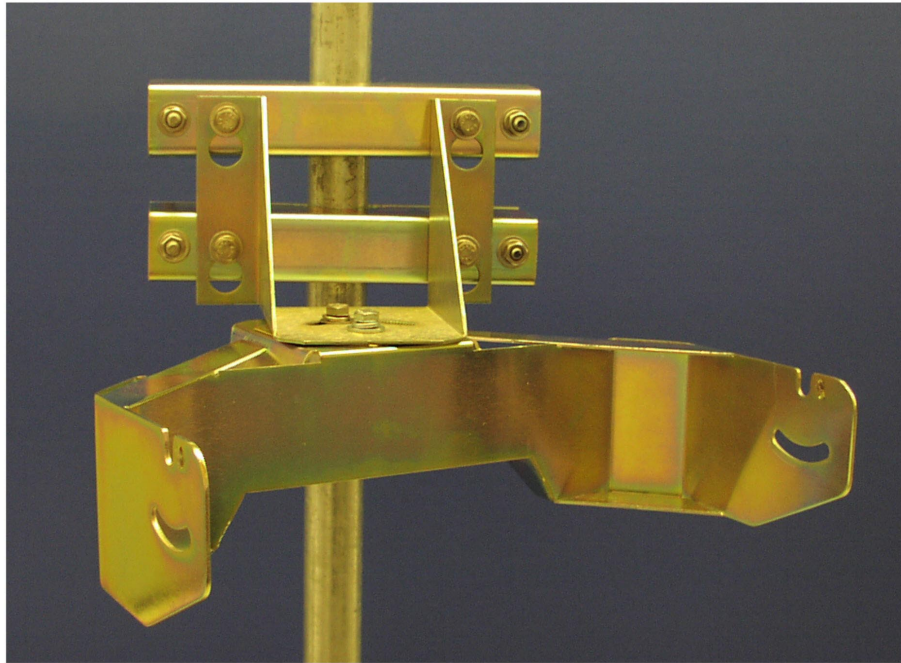

Figure 3-2: Mount with Radio Yoke in 'Pole Mount' Configuration
1. Attach two of the pole clamps to the mounting bracket using 4 each $\frac{3}{8}$ -16 x $\frac{3}{4}$ bolts, $\frac{3}{8}$ lock washers, and $\frac{3}{8}$ flat washers. Attach the threaded rods to the pole clamps using 8 $\frac{3}{8}$ -16 nuts and 4 each $\frac{3}{8}$ lock washers and $\frac{3}{8}$ flat washers. Refer to Figure 3-2.